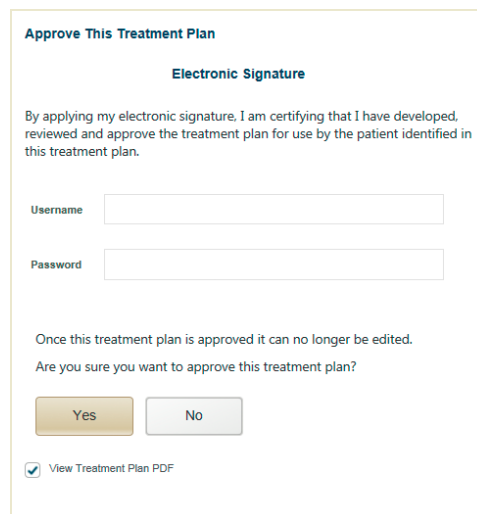

Figure 59 – **Electronic Signature** pop-up window
1. Click on **Approve Treatment** in the upper right side of the view to approve this treatment plan. The **Electronic Signature** pop-up window appears (figure 59). The electronic signature requires that you review and approve the treatment plan and the patient selected for correctness.